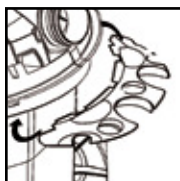

FIGURE 15
22. With rear of unit facing you, take tool holder and position it with the tabs facing rear tank cover. **FIGURE 15.**